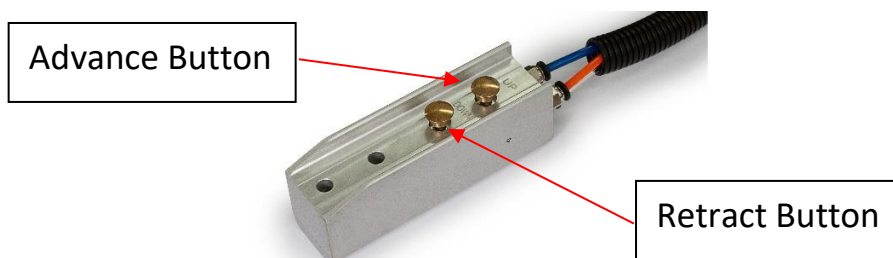

Figure 2 - DPA-16R Remote Control
- 5.4 To retract application, simply press the retract button on the remote control (refer Figure 2).